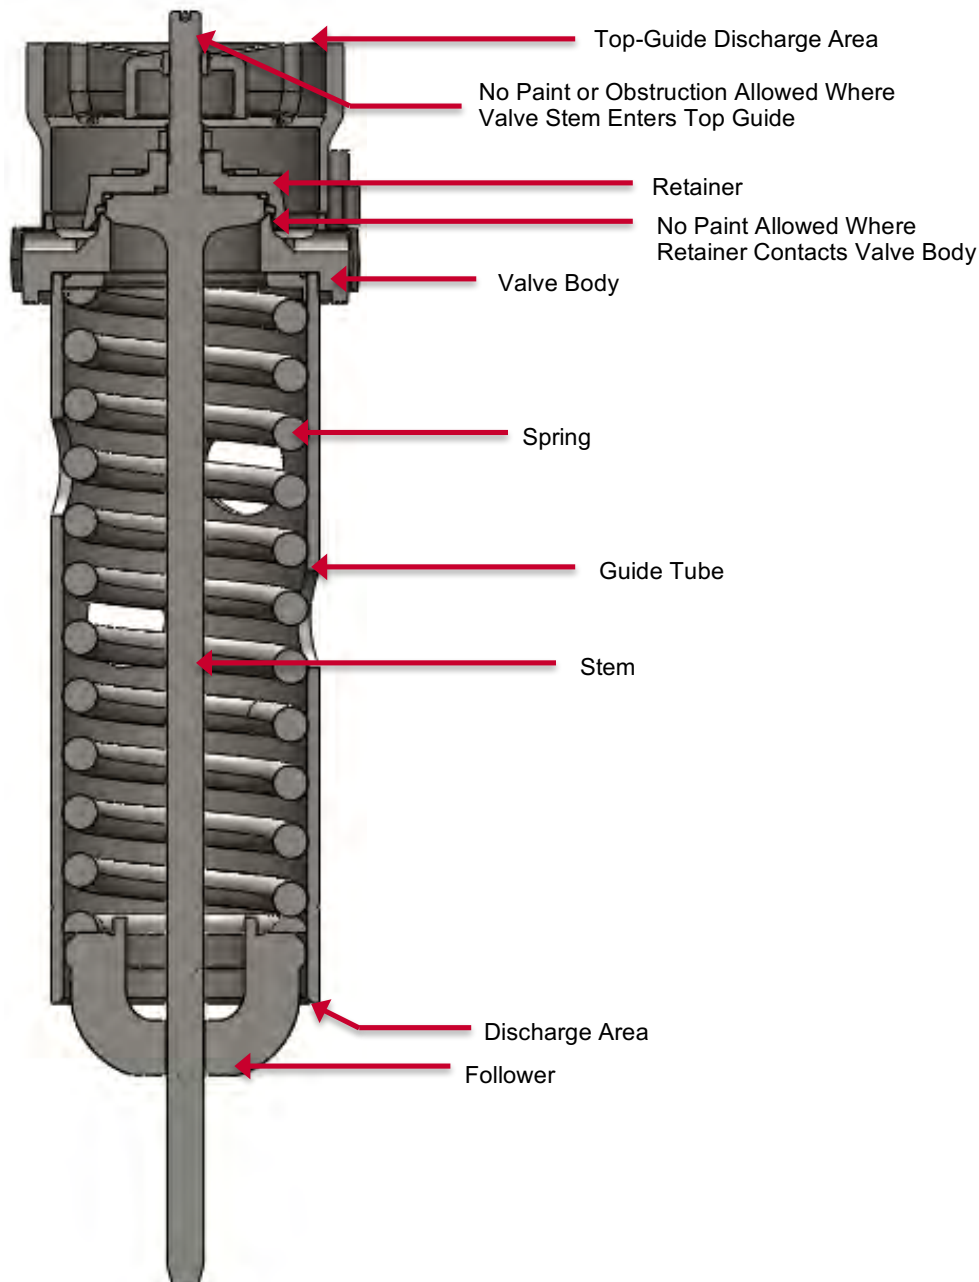

Figure 4-1 Valve Inspection Points
4.1.1.1 The top guide (item 1) is principally a non-structural part. There should be no paint on the guide bushing of this part where the valve stem enters it, or between adjacent surfaces of the top guide and valve body. The area of discharge through the top guide (Figure 4-1) must be unobstructed by foreign matter that would hinder free flow of discharging fluid.
- 4.1.7.1 This structural part has guides on its outer edges (refer to Figure 4-1). Move it up and down the length of the guide tube as indicated below. If it binds, look for dents or gouged surfaces on the inside of the guide tube. Repair the damage to allow free movement of the spring guide.
- 4.1.8.1 This guide tube is principally a non-structural part. There should be no paint on the inside of the guide tube. The area of discharge through the guide tube (Figure 4-1) must be unobstructed by foreign matter that would hinder free flow of discharging fluid. Inspect the guide tube by moving the top guide up and down the length of the guide tube as indicated below. If it binds, look for dents or gouged surfaces on the inside of the guide tube. Repair the damage to allow free movement of the spring guide.